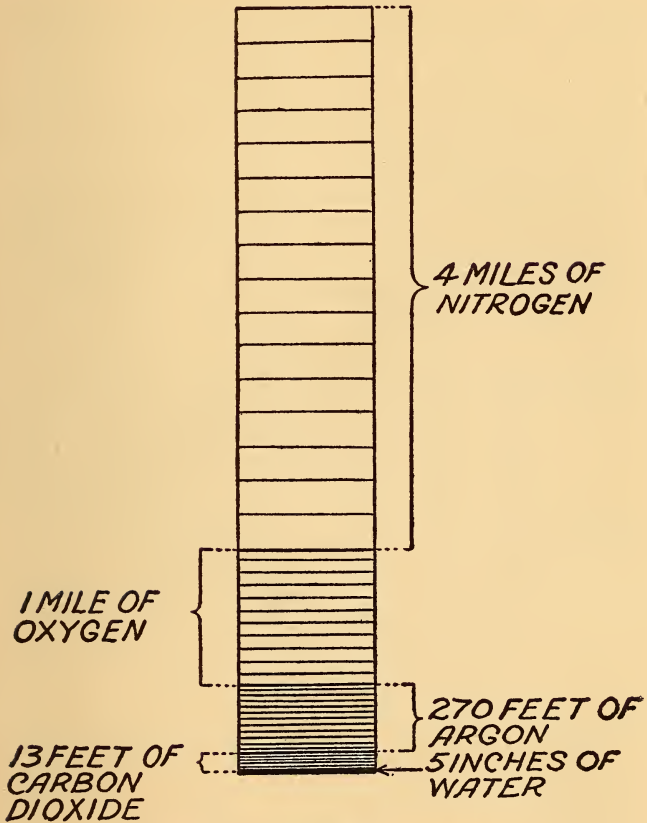

FIG. 1. WHAT AIR IS MADE OF
The atmosphere, or air, is made up of two gases, namely, (1) *oxygen* (O) and (2) *nitrogen* (N), and these are mixed in the proportion of one part of oxygen and four parts of nitrogen by bulk. While these two elements make up the larger part of the atmosphere the latter always has small amounts of other substances in it such as *carbon dioxide* (CO₂), or carbonic acid gas as it is commonly called, water vapor, ammonia (NH₃), a trace of *argon* (A), *neon* (Ne), *krypton* (Kr), and some other rare gases.³ See Fig. 1.